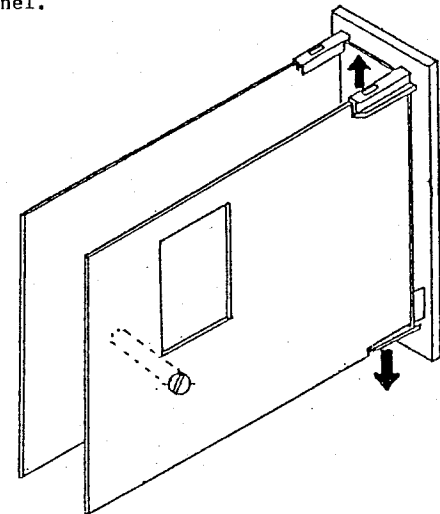

FIGURE 5-1 - SEPARATING THE OPTIONS PCB
1) Extract the screw securing the Options Board to the pillar on the Main Board (See Figure 5-1).